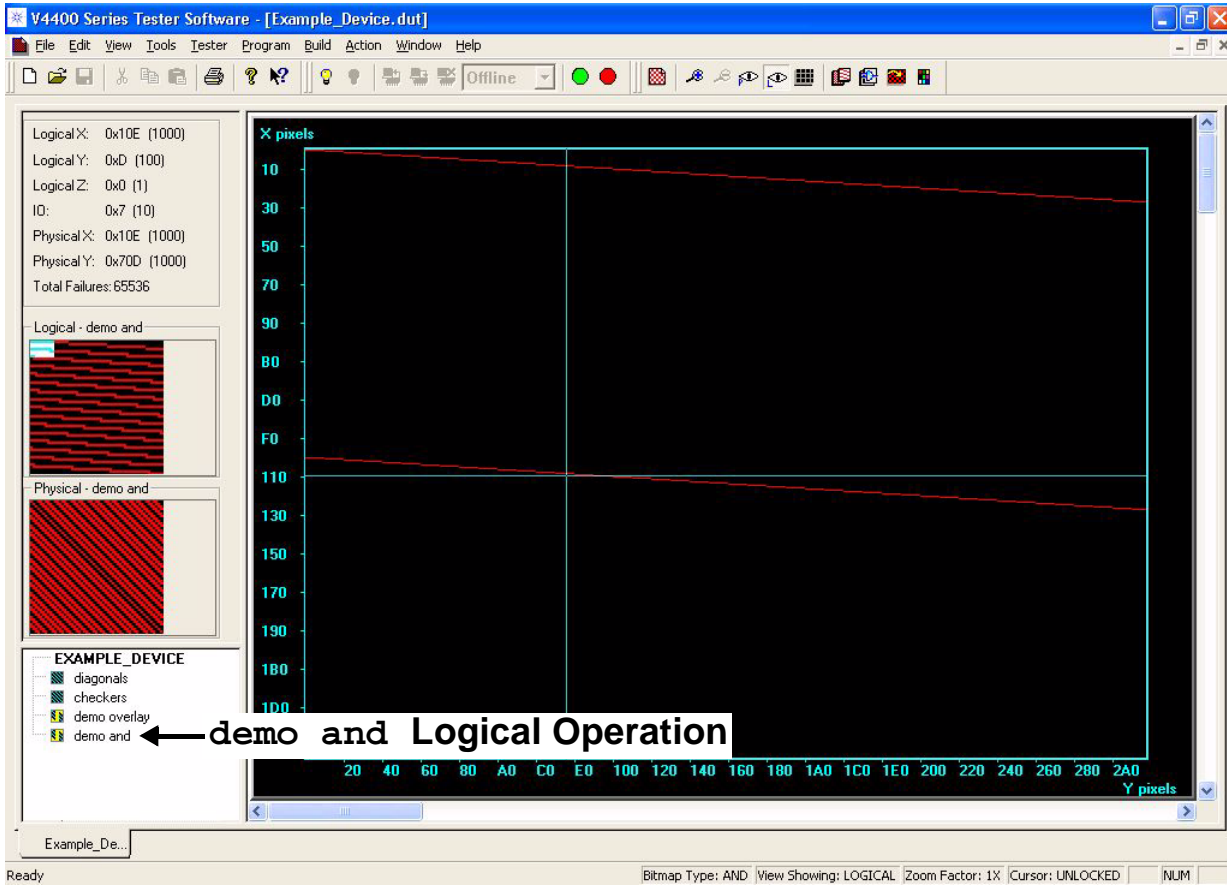
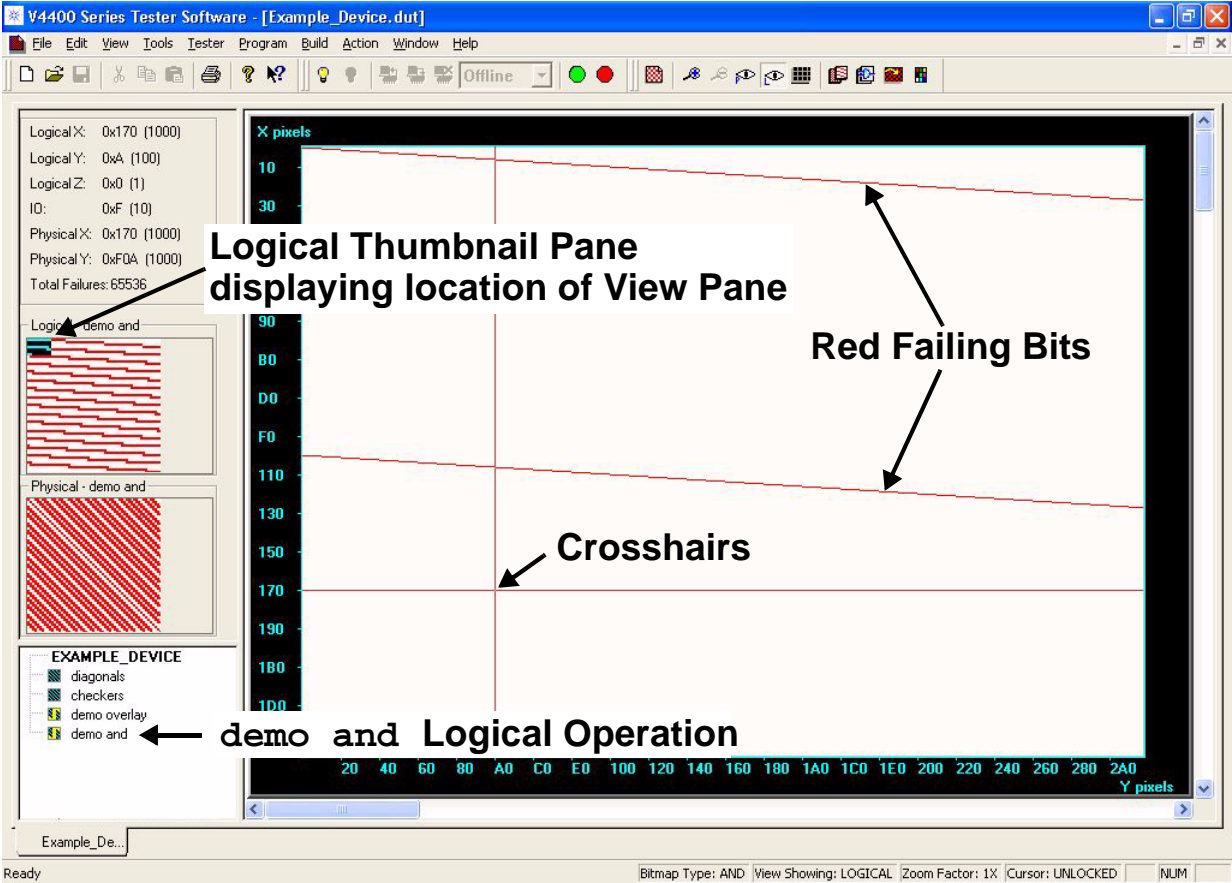

Figure 8-73. Main Window Displaying AND Logical Operation
Figure 8-76. Main Window Displaying White Passing Bits
4. Selecting the button closes the dialog box and displays the logical operation in the main window (Figure 8-73).
- 3 Selecting the **OK** button closes the dialog box and changes the demo and logical operation to display passing bits in white in the main window (Figure 8-76). Compare the white passing bits for the demo and logical operation with the black passing bits shown in Figure 8-73 on page 420.